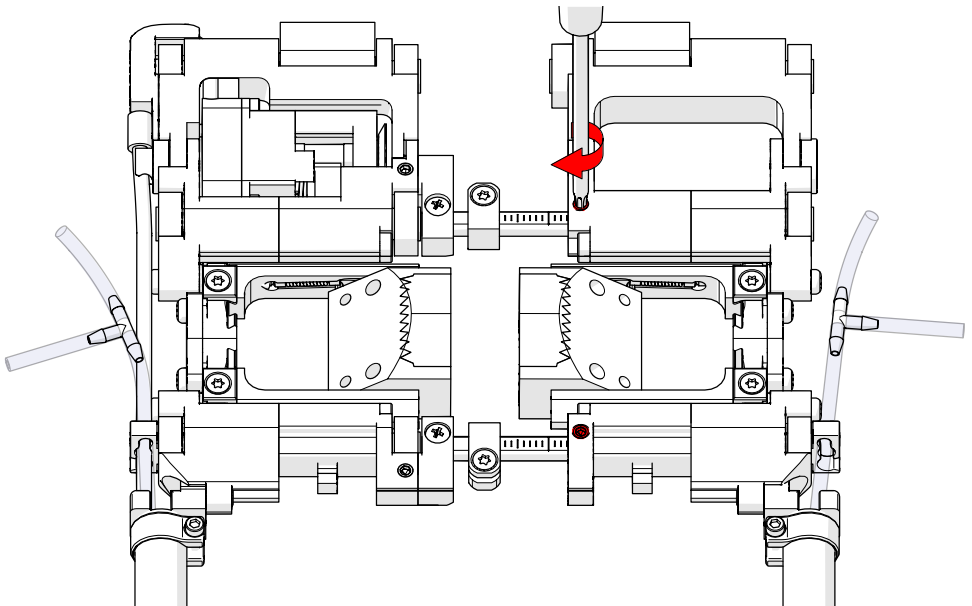

Fig. 78 - Tighten crossbar clamp screws
9. Tighten both crossbar clamp screws (Fig. 78).